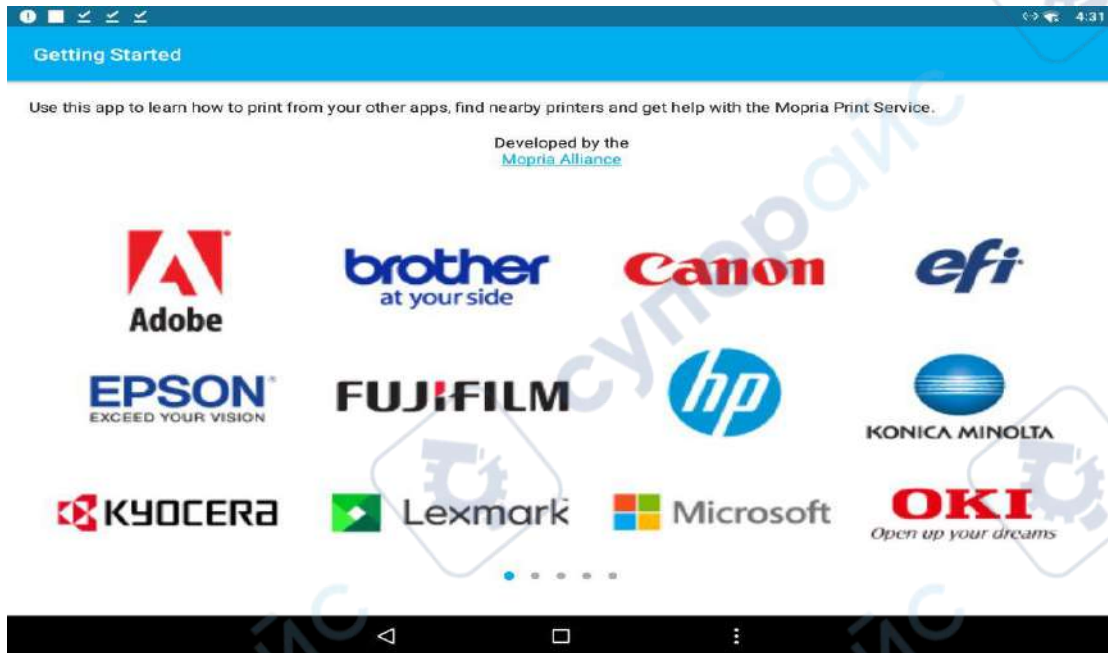
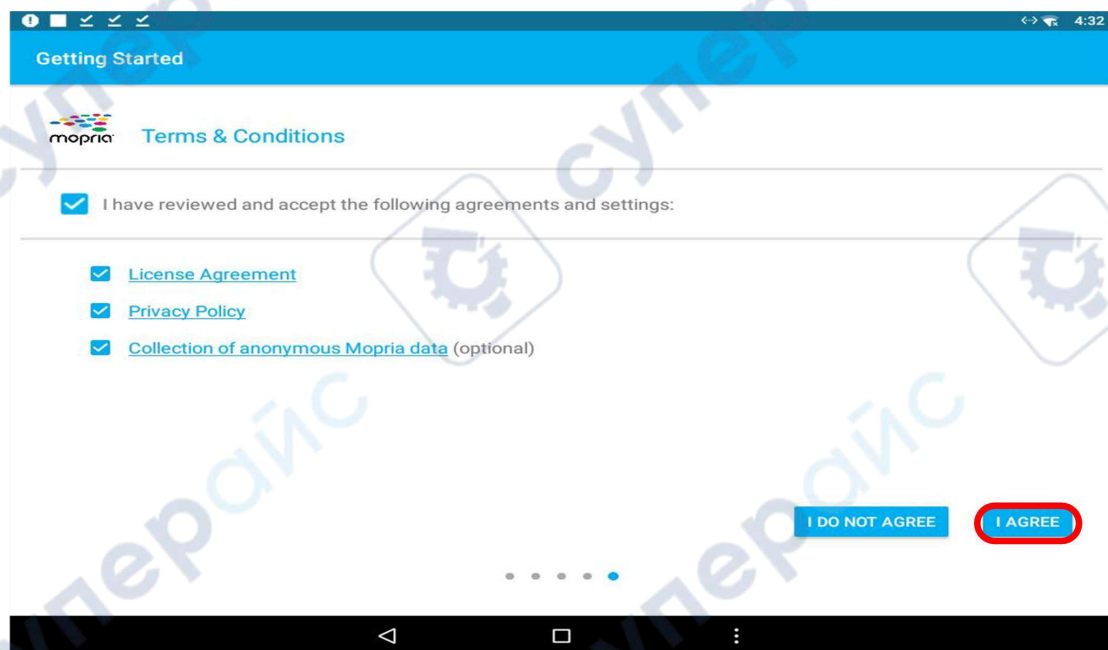

Figure 6
Figure 7
3、 Open the installed printing software, as shown in Figure 6. Go to the last page and check "**Agree**" license agreement and privacy policy. Click "**I agree**" to start using the software, as shown in Figure 7.